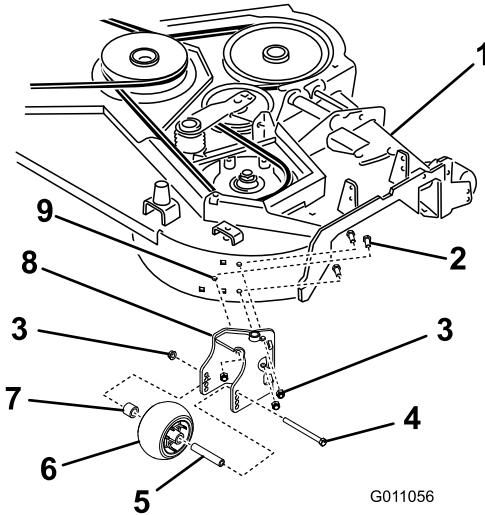

Figure 6
5. Install the new blower pivot with 3 bolts (3/8 x 1 inch) and 3 locknuts (3/8 inch) using the drilled holes (Figure 6).
6. Install the anti-scalp roller to the blower pivot with the previously removed axle bolt (3/8 x 4-1/2 inches), spacer, bushing, and flange nut (3/8 inch) (Figure 6).